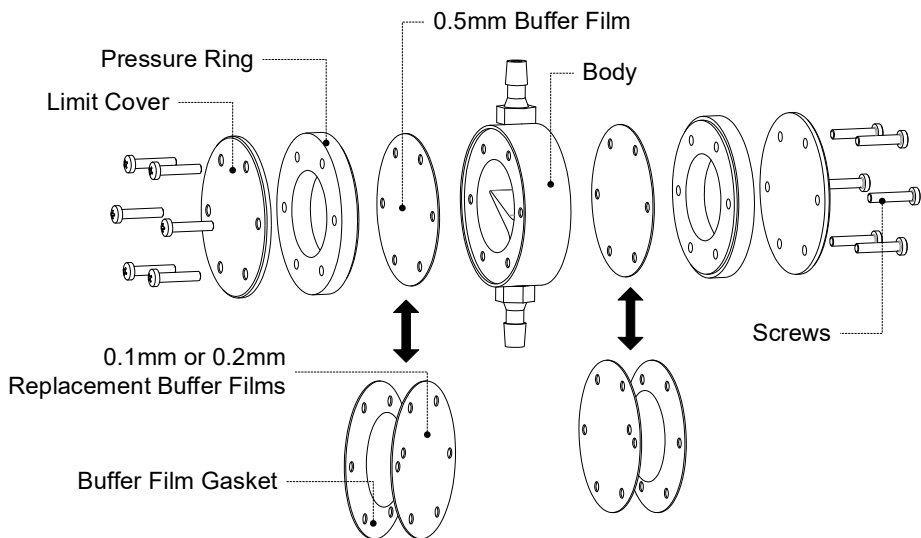
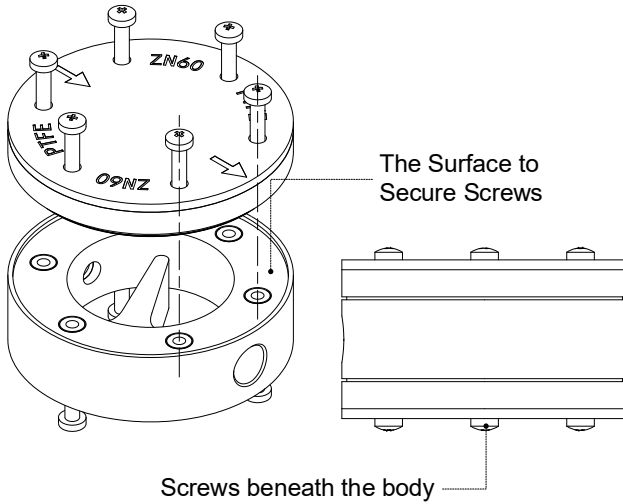

Figure 3. Disassemble Damper
Figure 4. Disassemble Damper
- (1) Remove the fastening screws on both upper and lower sides of the ZN60 damper (as shown in Figure 3), disassemble the damper, and take out the 0.5mm buffer film.
- (2) Remove the 0.2mm or 0.1mm thin film from the packaging bag, peel off the protective film on both sides, and simultaneously take out two buffer film gaskets. Affix one side of the buffer film gasket to the pressure ring, then attach the thinner replacement buffer film to the other side of the buffer film gasket. Finally, tighten the screws on the top of the body.
- (3) When installing the single-side buffer film assembly, first ensure that the body is flush with the surface to secure the screws (as shown on the left side of Figure 4). Begin by screwing in the screws in this direction, but do not tighten them at this point. After screwing in the screws underneath the body, then tighten them (as shown on the right side of Figure 4). This means that screws opposite to the embedded nut should be tightened first during fastening to prevent the nut from slipping inside the body.